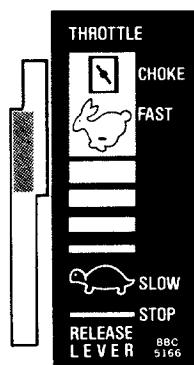

FIGURE 6.
7. Move throttle control lever on handle forward until it stops in FAST position. (**Do not** push all the way forward to CHOKE position.) See figure 6.